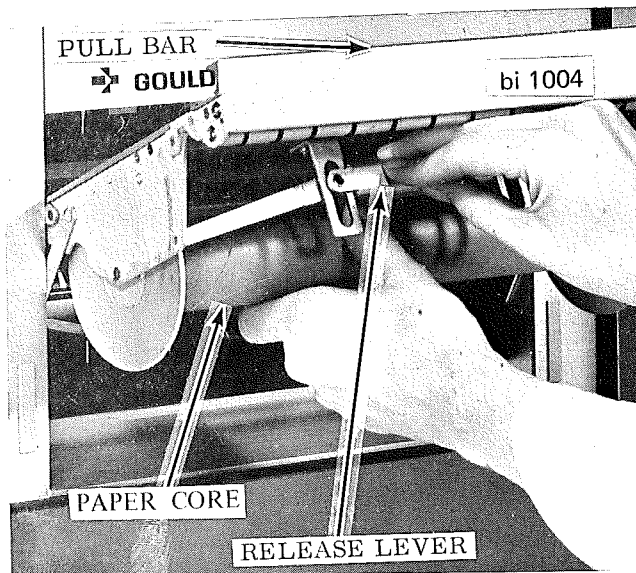

FIGURE 5-1 PAPER ROLL REMOVAL
1. Grasp pull bar (Figure 5-1) and open writing table.